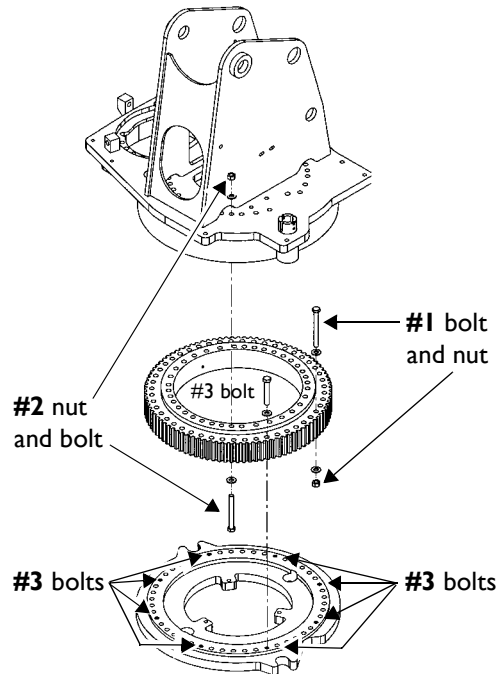
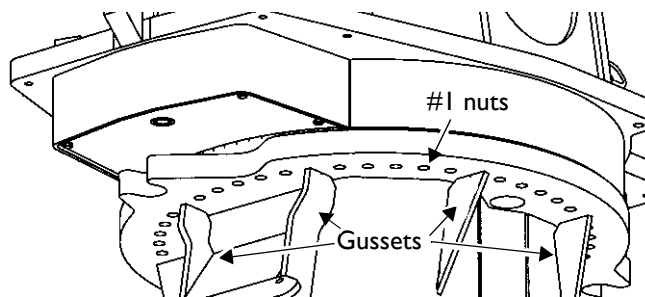

Figure 24
Figure 25
6. Check all other bolts on the loader visually (except for the slewing ring bolts shown in *Figure 24*, below) and tighten loose bolts, according to the values given in the parts manual.
You must check the three sets of slewing ring nuts and bolts shown in *Figure 24*, below, at the end of the inspection because you must turn the booms to access the #3 bolts.
1. Check the torque value of the 40 #1 nuts that are visible around the plate protecting the slewing ring and tighten if necessary. (see *Figure 25*, below).
2. Check the torque value of the 32 #2 nuts that are visible on the loader head and tighten if necessary (see *Figure 24*, above).
5. Starting with the booms straight out from the frame as in *Figure 1* on page 12, turn the booms 22° clockwise. This should align the first pair of bolts with the access holes (the bolts are indicated by the black points in the mounting in *Figure 24* on page 54, and are aligned with the gussets visible in *Figure 25* on page 54).